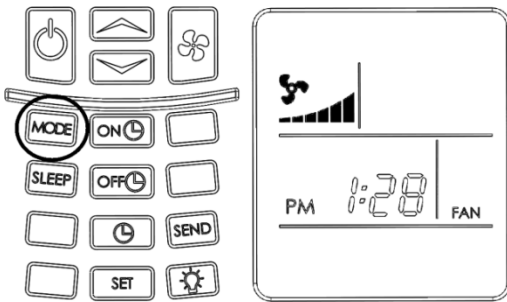

Figure 18 - Select FAN mode
- Press the MODE button until FAN mode is selected. Figure 18